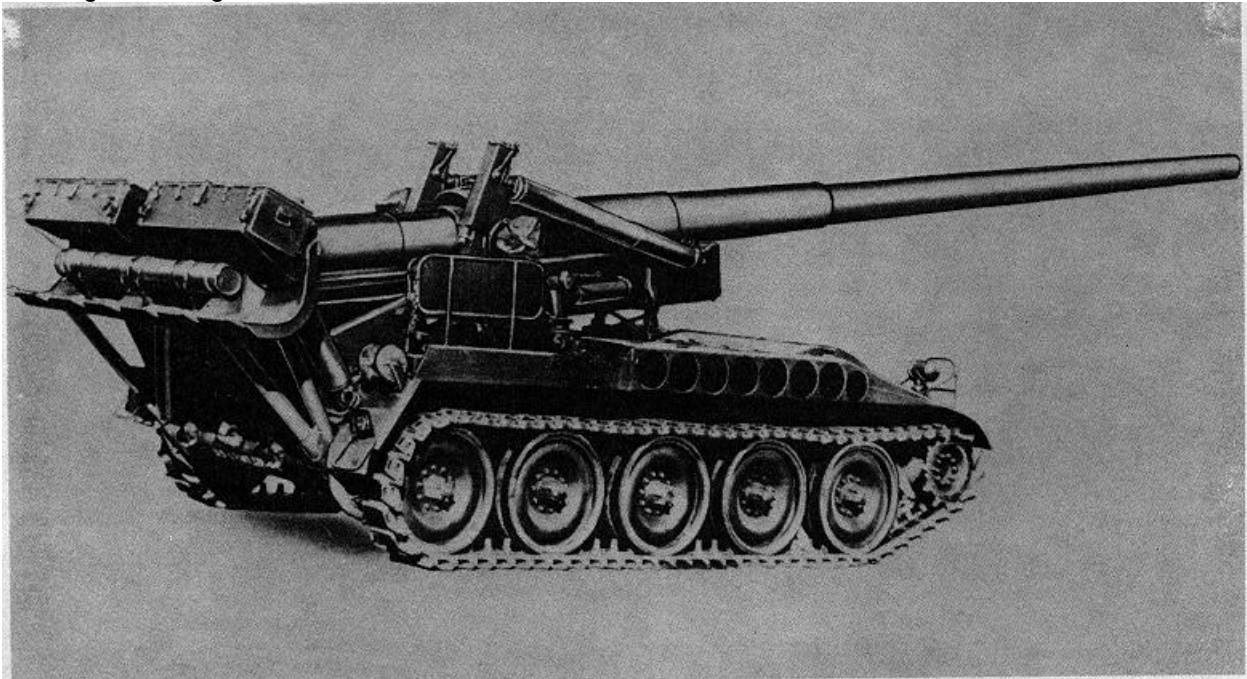

Figure 2-1. Gun, field artillery, self-propelled, 175-mm, M107.
b. M107 (fig 2-1). The M107 is equipped with a 175-mm cannon, M113.